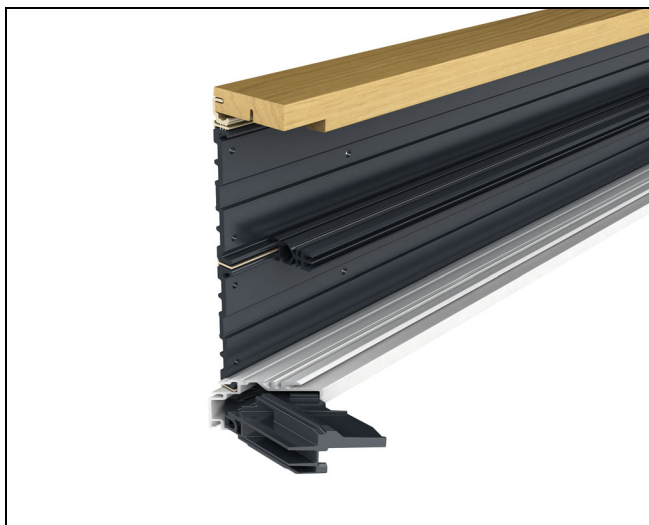

Figure 110
1. Lay out the four sides of frame and insert frame cladding corner keys into head jamb. See figure 110.